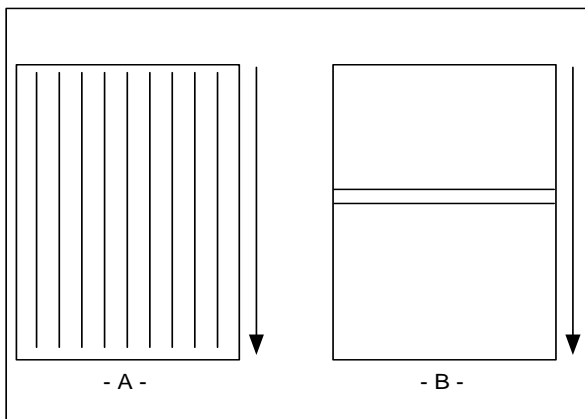

FIGURE 42
3. Straight waves in output (Fig. 42 A).
4. Indent waves in output after pull rollers (Fig.42 B)